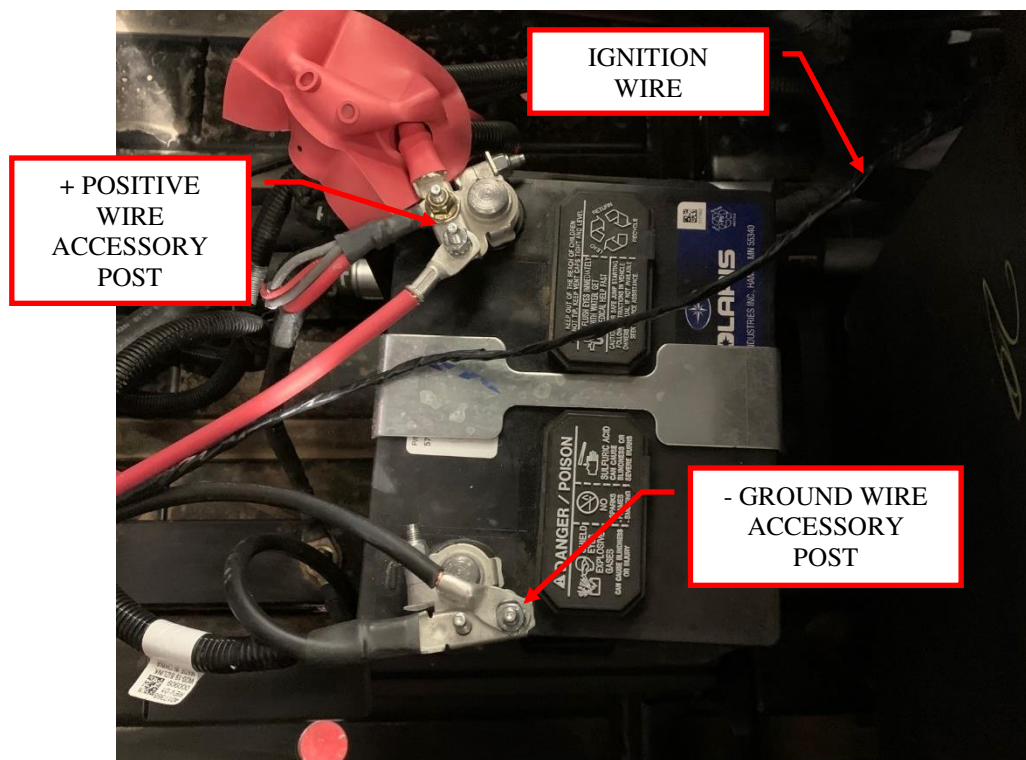

Figure 8: Attach the power wires.
9. Connect the red power wire to the positive terminal of the battery. Connect the black ground wire to the negative terminal of the battery. Use the supplied M6 nut to clamp the cable down to the accessory posts on the battery terminal. See Figure 8.
12. Route the ignition wire from the chassis harness (near the area where you made the battery connections in Figure 8) through the wire access tunnel and up the